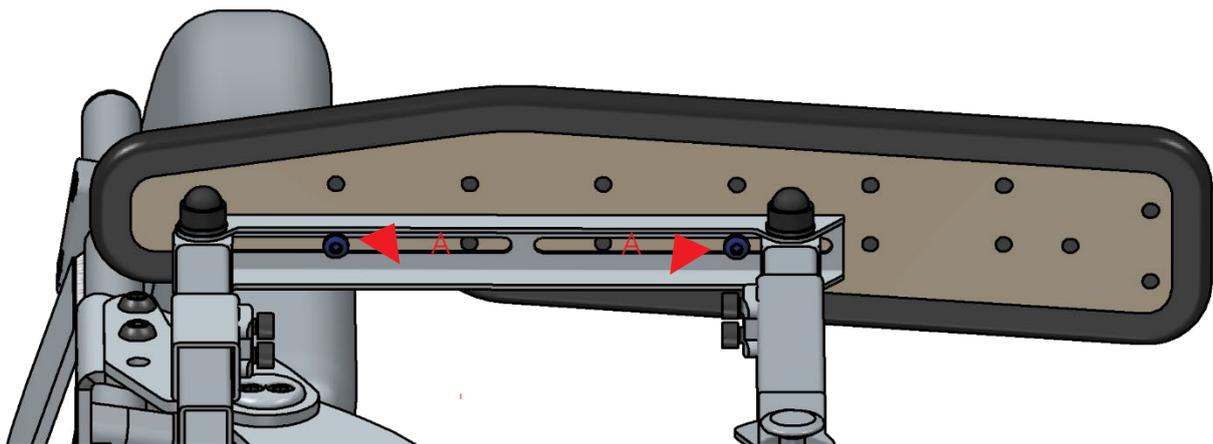

Figure 6
1. Loosen the two bolts (Fig. 6 - Pos. A) holding the armrest cushion.
3. Tighten the two bolts (Fig. 6 - Pos. A) holding the armrest cushion.